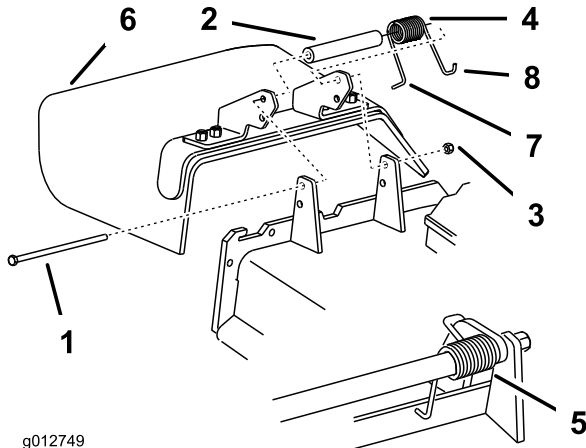

Figure 88
1. Remove the locknut, bolt, spring and spacer holding the deflector to the pivot brackets (Figure 88). Remove damaged or worn grass deflector.
Note: Make sure the **L** end of spring is installed behind deck edge before installing the bolt as shown in Figure 88.
3. Install bolt and nut. Place the **J** hook end of spring around grass deflector (Figure 88).